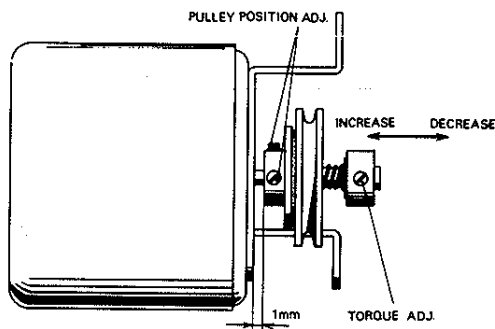

Fig. 6.2
- (2) Fast Forward and Rewind Torque should not be less than  $50g\text{-cm}$ .
- (3) Adjust the friction torque by adjusting location of motor friction pipe. Refer to the Fig. 6.2.